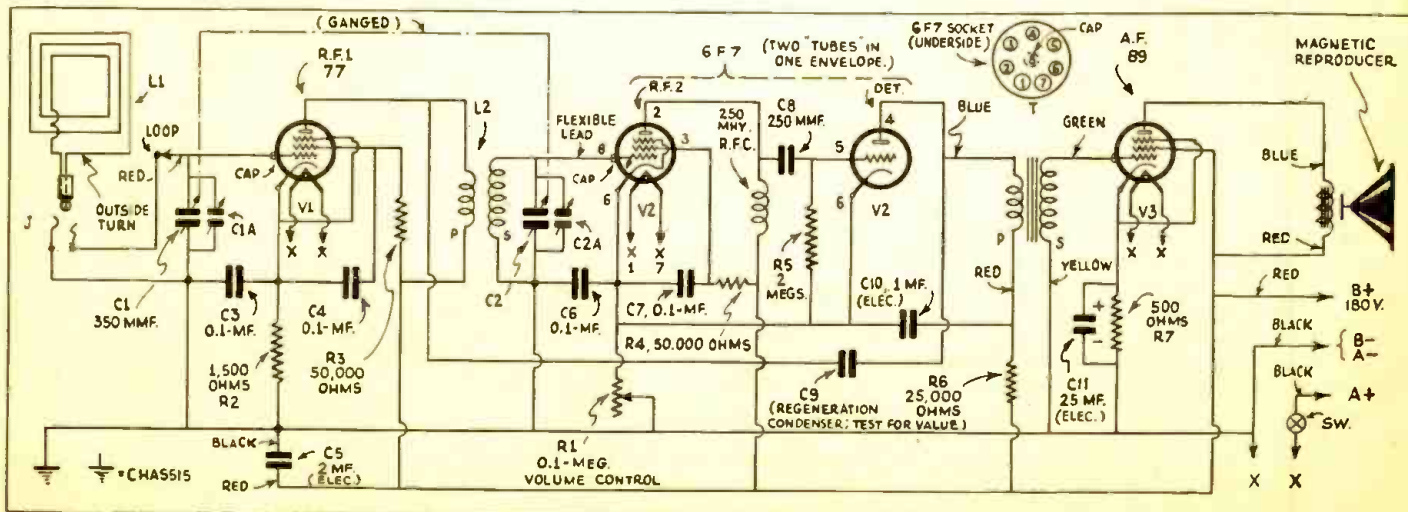
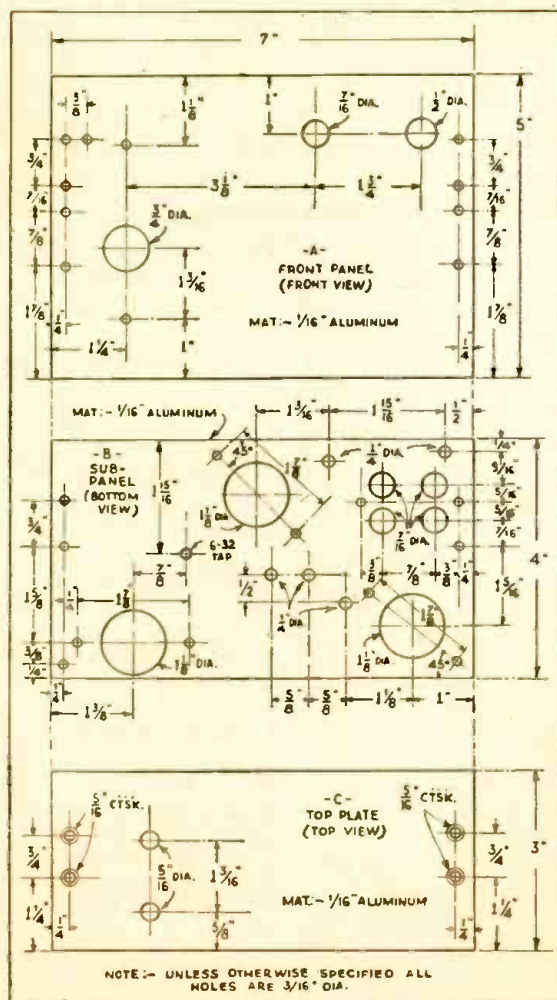

Fig. 1
Fig. 2
**M**ODERN tubes have made convenient the construction of an entirely self-contained radio receiver for the reception, at "loudspeaker volume," of local stations; the "loop-portable '3'" incorporates in one carrying case a uni-directional loop antenna, three rugged cathode-type tubes—a type 77, a 6F7, and an 89, a magnetic reproducer, a receiver chassis, and the power supply. On the magazine cover the set is depicted in use; it is again illustrated in Figs. A, B, and C. Electrical and mechanical theory, and electrical and mechanical practice determined the design of this instrument; both factors are closely linked. The theoretical description refers to Fig. 1; construction details are illustrated in Figs. 2 and 3.
The second tube selected for this receiver is the type 6F7 described in the July, 1933, issue of RADIO-CRAFT. It combines in one envelope not only the functions of an R.F. variable- $\mu$  pentode, but also makes available a triode which is a very good detector and which may be coupled into the grid circuit of the output tube by means of a transformer, thus obtaining considerable voltage "step-up" due to the turns-ratio of this A.F. transformer; this unit, T, in Fig. 1, has a step-up ratio of 1:5.
The first step in constructing the receiver chassis is to drill the three sheets of aluminum, as per Fig. 2. Attention is here called to an important point: the measurements, for the parts specified, are quite exact, since many of the components are a snug fit.
First, mount R.F.C. to the sub-panel by means of a brass machine screw; a tapped hole has been indicated in Fig. 2 for it. *Very carefully* scrape the enamel from the hair-fine wire of this choke coil, place spaghetti over the wire, and run the leads directly to their destination, soldering them in position. Choke R.F.C. will mount on the sub-panel in either of two positions; place it so that the choke clearance is the maximum of  $\frac{1}{4}$ -in. Connect the outside lead to the plate of the pentode section of V2.
Twist three of the color-coded leads (see Fig. 1) of the A.F. transformer and a separate fourth lead which will be "B" plus, into a cable, run them down to the sub-panel, and wire them into position. The remaining color-coded lead from T is to be soldered to a cap for connection to the control-grid of V3.
This receiver chassis connects to the power supply and the loop antenna by means of tip-jacks, as shown in Fig. 1. One tip-jack lead is "A" minus—"B" minus, and the other is the high-potential (outside) lead to the loop antenna, on the right-hand terminal strip inside the cabinet; one tip-jack lead is "A" plus and the other is "B" plus, on the left-hand connection panel; provide tip-jack leads accordingly. The chassis is "A" minus "B" minus, and the other is the lead from the switch extends along the top edge of the front panel to the left-hand side; the top plate, when in position, holds this in place. Be sure to letter each tip-jack for future identification.